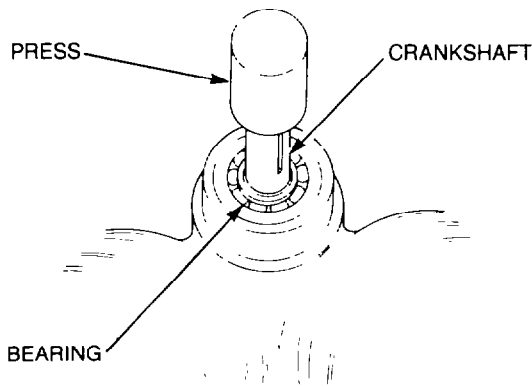

Figure 4 — Crankshaft — Removal
- g. Using a suitable press, remove the crankshaft out of the crankcase (see Fig. 4).